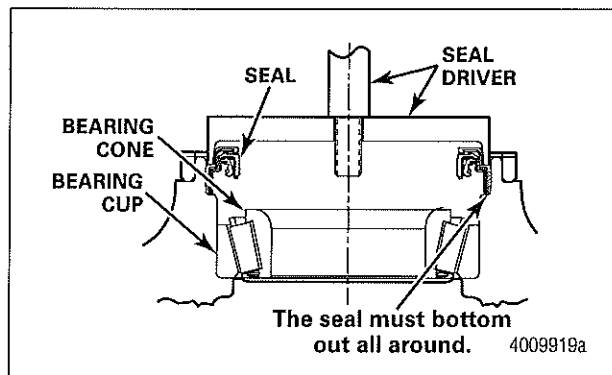

Figure 21
- B. Align the seal and tool with the hub seal bore and drive the seal until it bottoms out in the hub seal bore. Figure 21.